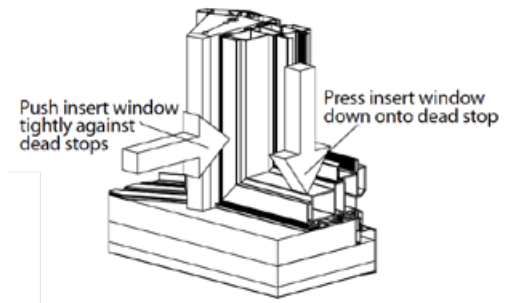

Figure E4
3. On either bottom side of insert window, push insert window tightly against dead stops and down onto seat cap. **(Figure E4)**